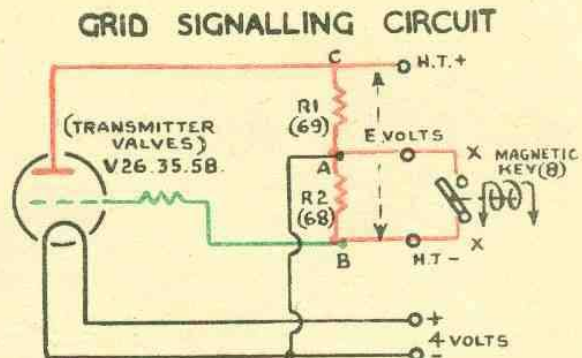

Fig. 9.
A form of grid keying is employed for Transmitter 4T. The principle of the method will be understood by reference to Fig.9, in which 'V' represents the transmitter valves which it is required to key. The resistances R1 (69) and R2 (68) are connected across the transmitter H.T. supply of 'E' volts, the anodes of the valves being connected to point 'C' and the grids to point 'B', while the filaments are connected to point 'A' at the junction of the two resistances. Under these conditions, the potential at the point 'A' will be  $\frac{(R2)E}{R1 + R2}$